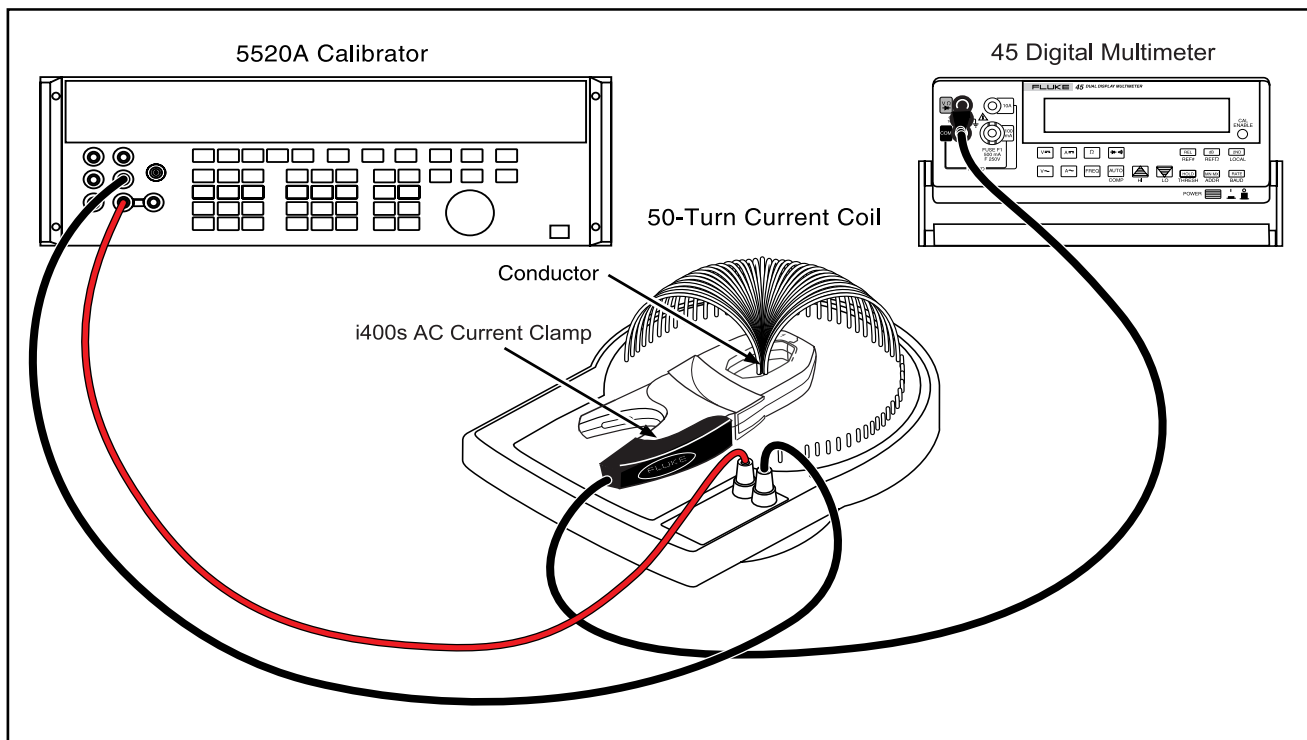

Figure 2. Current Accuracy Test Connections
1. Connect the equipment as shown in Figure 2.
1. Using the equipment connections shown in Figure 2, set the 5520A output for 2 A, 45 Hz.